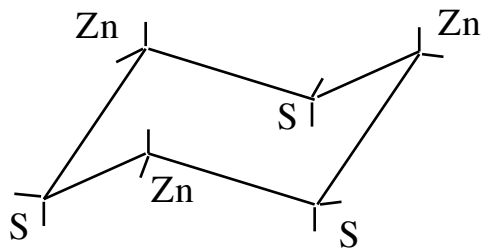

Fig. 2 The hexagon in a chair conformation.
2. Set the hexagon on a table. Adjust it so that the three sulfides touch the table and the three zinc ions are raised. (Fig. 2) The three raised atoms should have a peg pointing straight up. This is called a chair conformation.